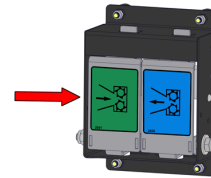

Figure 14 - Forward Feed Control
4. Press the **GREEN** Forward Feed Control (Figure 14).